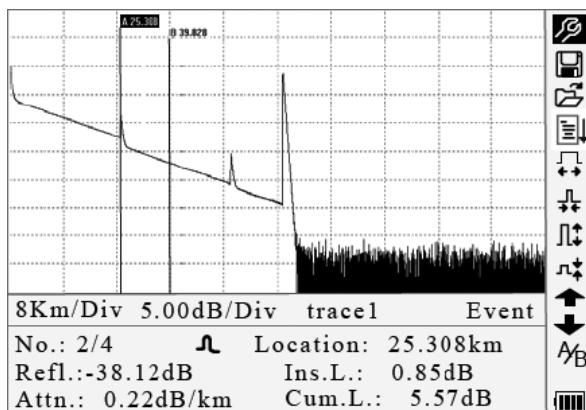
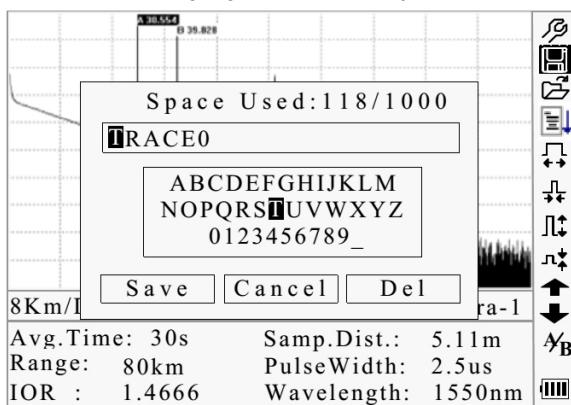
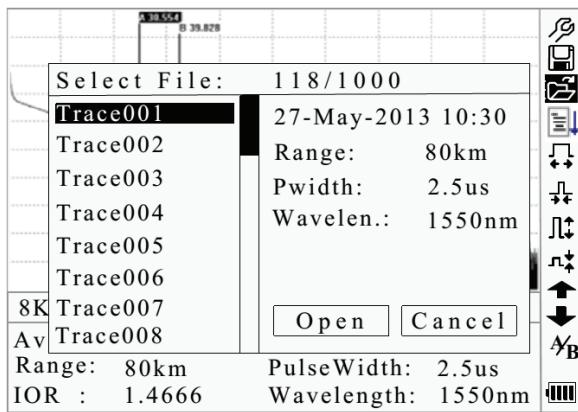

Figure 4-4. Trace Measurement
Figure 4-6. Save a Trace
Figure 4-7. Browse Saved Traces
**Note:** After a certain period of time, the trace displays on the GUI. The trace in the figure below is a trace during measurement, which will be refreshed for every certain period of time to demonstrate the whole process in realtime. But at the end of measurement the trace will be complete, as shown in Figure 4-4.
Under GUI (Figure 4-4) press ↲ and the items in the information window will display in this order: measurement parameters → analysis information → events list → marker A/B information → fiber information → measurement parameters.
Under GUI (Figure 4-4) press ↲ until the events list information appears in the information window.
Under GUI (Figure 4-4) use ▲ and ▼ to highlight A/B, and then press Enter to switch between marker A/B.
Under GUI (Figure 4-4) press ↵ to switch information window to marker A/B information.
1. Under GUI (Figure 4-4) use ▲ and ▼ to highlight ⌂, and then press Enter to zoom out the trace horizontally.
Under GUI (Figure 4-4) use ▲ and ▼ to highlight ⌂, and then press Enter to zoom out the trace vertically.
1. Under GUI (Figure 4-4) use ▲ and ▼ to highlight ⌂, and then press Enter to zoom out the trace vertically.
Under GUI (Figure 4-4) use ▲ and ▼ to highlight ⌂, and then press Enter to zoom in the trace vertically.
1. Under GUI (Figure 4-4) use ▲ and ▼ to highlight ☐, and then press Enter to enter (Figure 4-6).
1. Under GUI (Figure 4-4) use ▲ and ▼ to highlight , and then press Enter to confirm (Figure 4-7).